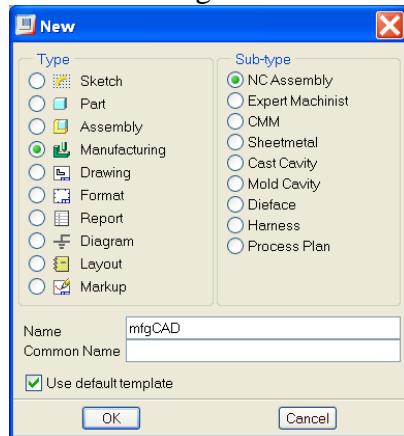

Figure 1.13 Creating a new file
3. Create the part name. Pro/E main menu, File → New, select Manufacturing in Type window and NC Assembly in Sub-type window, enter name: mfgCAD as shown in Figure 1.13